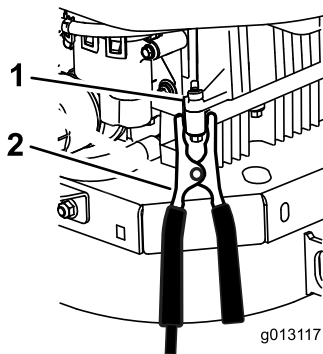

Figure 80
- Make the final connection on the engine block of the stalled machine (not to the negative battery post), away from the battery, and stand back (Figure 80).